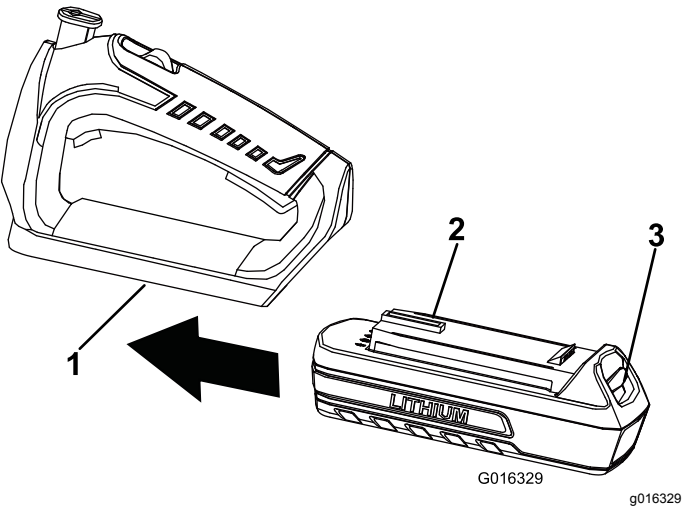

Figure 3
- 1. Align the tongue of the battery pack with the cavity in the handle housing (Figure 3).